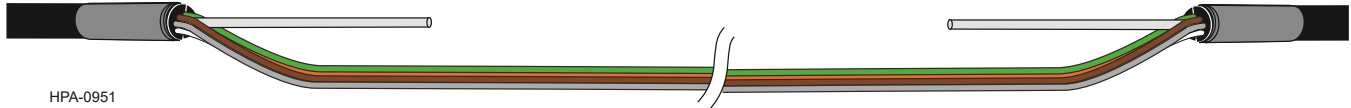

Figure 18
**Step 7:** Separate the buffer tubes from the central member. Cut the central member at each end of the midspan (near the tape marks) to the appropriate length for strain-relief. If you will be installing cable strain-relief hardware that clamps into the jacket, place three layers of vinyl tape over the area where the clamps will make contact with the jacket (Figure 18).